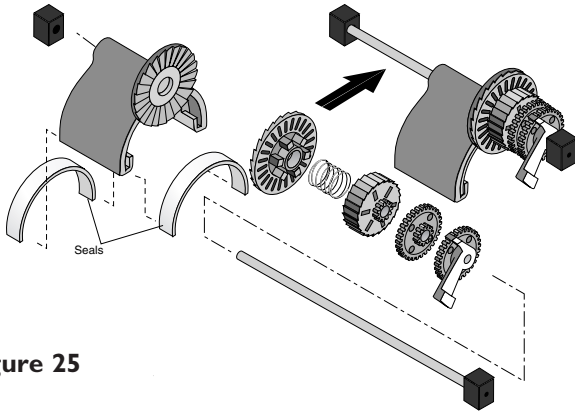

Figure 25
2. Install the oscillator on the long gear shaft. Install the ratchet gear on the shaft so that the teeth engage the ratchet on the oscillator. Install the spring, ratchet drum, pinion gear (large gear first), and cam (gear end first) on the shaft (See Figure 25). Hold the gears on the shaft while installing them, and compress the clutch spring to allow assembly to slip into place between the posts (See Figure 25).